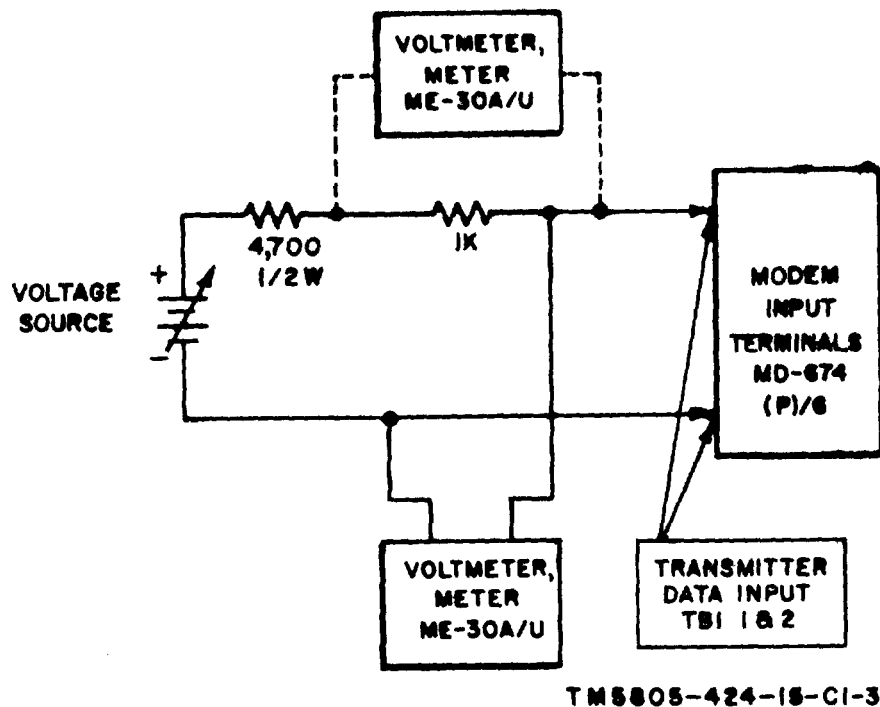

Figure 8.1-5. Connections for input resistance tests.
a. Connect the equipment as shown in figure 8.1-5; set the ME-30A/U, connected across the 1K resistor to read 1 volt, full scale.